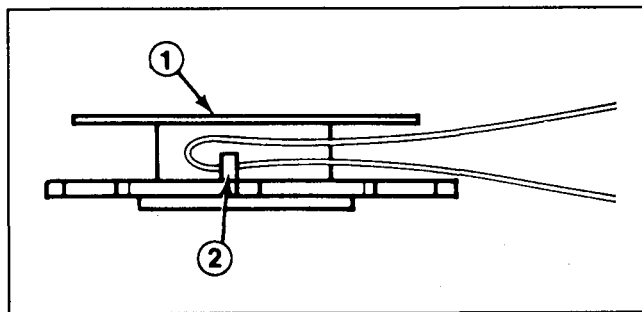

Figure 12
2. Slide spool housing, spring, and spool from mounting shaft (Fig. 12).